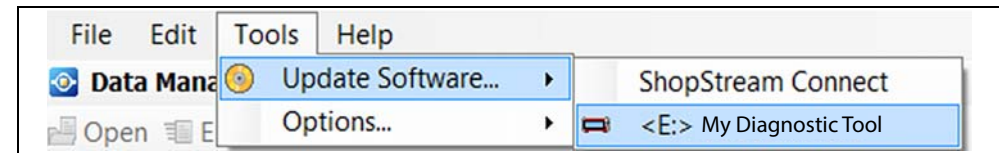

Figure 16-11
1. Select **Tools > Update Software >** (diagnostic tool type - e.g. ETHOS Edge, MODIS Edge, SOLUS Edge, etc.) from the Menu bar (Figure 16-11).